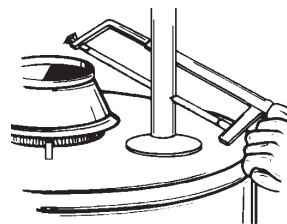

FIGURE 5.
6. If you have copper piping to the water heater, the two copper water pipes can be cut with a hacksaw approximately four inches away from where they connect to the water heater. This will avoid cutting off pipes too short. Additional cuts can be made later if necessary. Disconnect the temperature-pressure relief valve drain line. When the water heater is drained, disconnect the hose from the drain valve. Close the drain valve. The water heater is now completely disconnected and ready to be removed, see Figure 5.